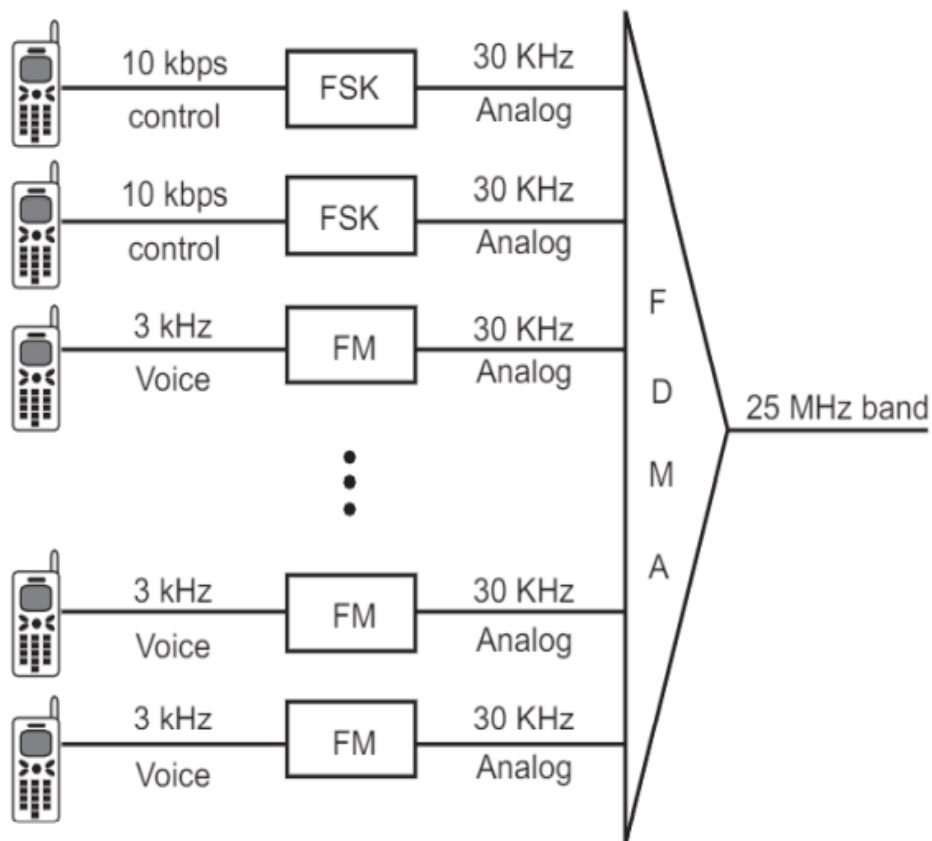

Fig 5.8 FDMA medium access control technique used in AMPS.
- As each location area is shared by two service providers, each provider can have 416 channels, out of which 21 are used for control. AMPS use Frequency Division Multiple Access (FDMA) to divide each 25-MHz band into 30-KHz channels as shown in Fig 5.8.